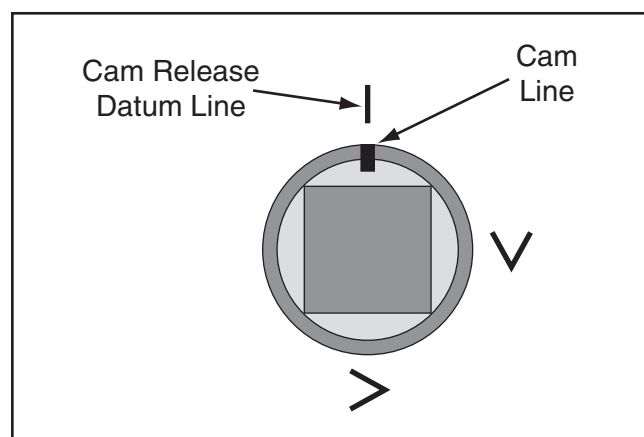

Figure 33. Cam line aligned with the cam release datum line.
5. Start with the same camlock you began with in **Step 3** and rotate it counterclockwise so that the cam line is aligned with the cam release datum line, as illustrated in **Figure 33**.